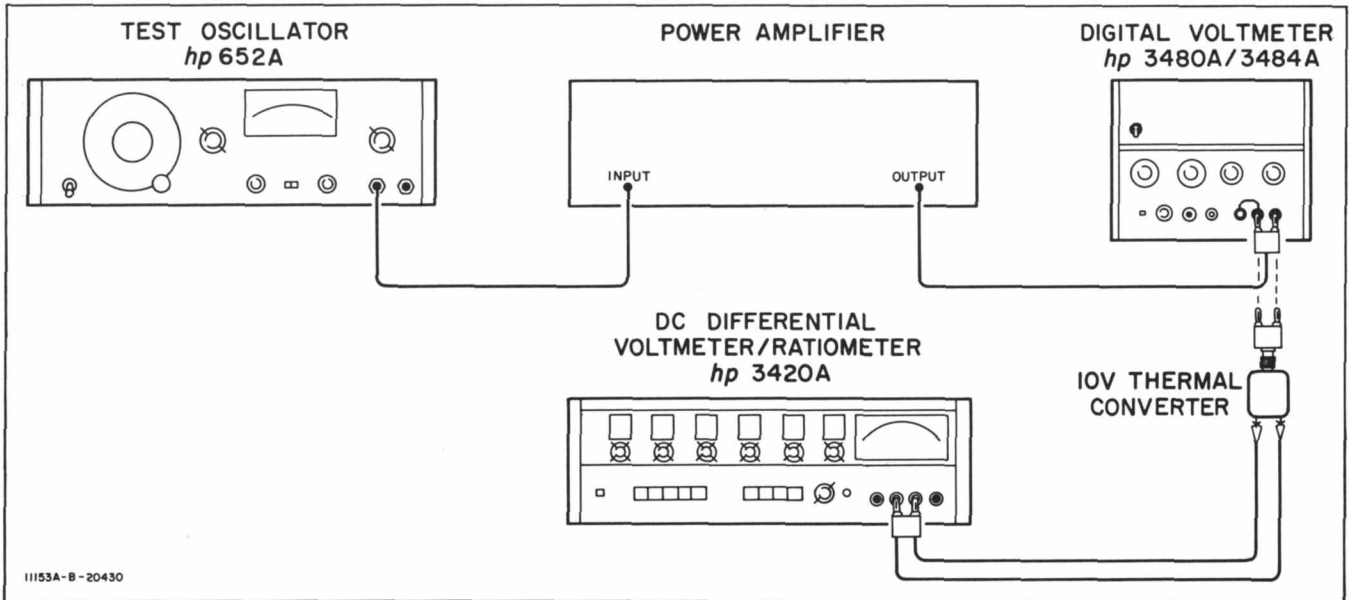

Figure 5-4. 1 MHz, 10 V Adjustment.
- g. Reduce test oscillator output to zero and replace 1 V thermal converter with 10 V thermal converter. Add power amplifier to test oscillator output as shown in Figure 5-4.